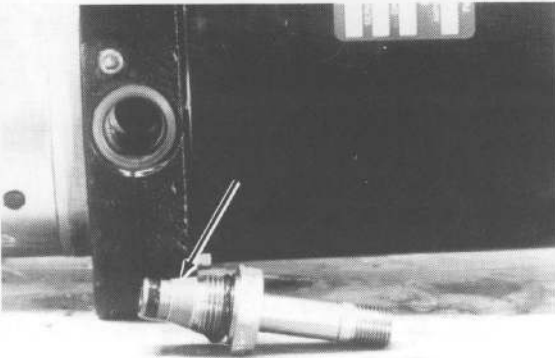

Figure 2-15
1. Remove nut, coil and cartridge valve (ensure the plunger inside the cartridge valve is not left inside the valve housing). See Figure 2-15.